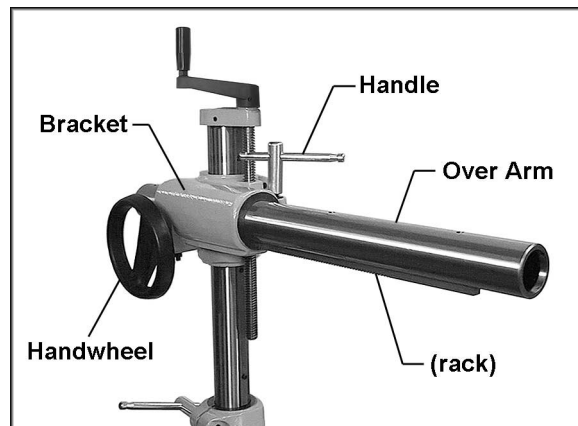

Figure 6
11. Make sure the handle on the bracket (Figure 6) is loosened enough to allow the insertion of the over arm into the bracket.